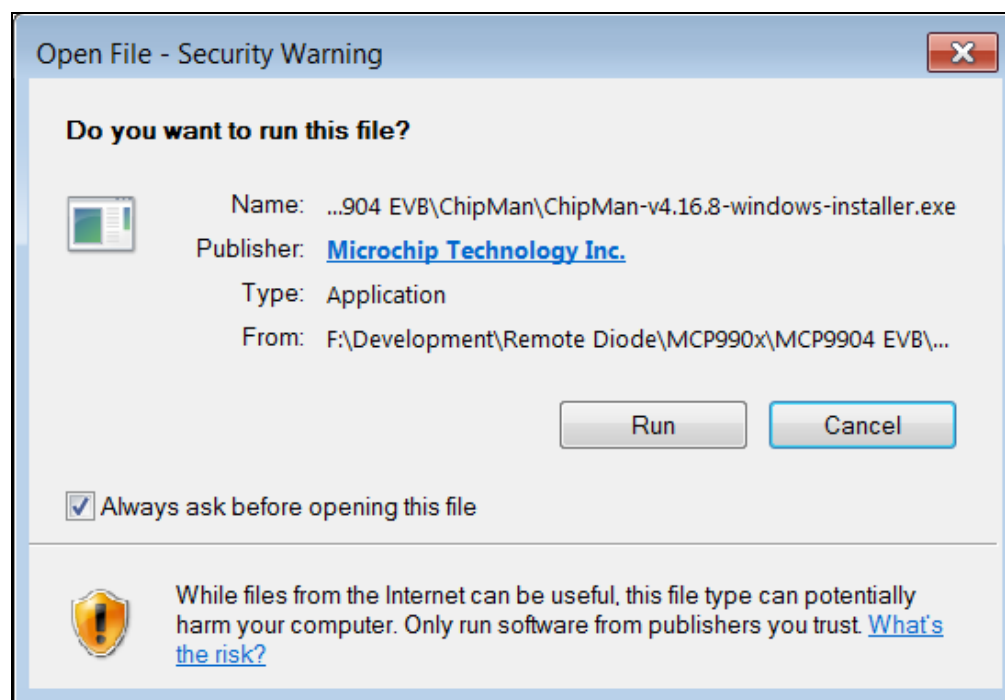

FIGURE 2-2: Application Install Window.
- After the driver installation is complete, the initial setup screen for the Chip Manager application appears (see Figure 2-2). Click **Next** to start the installation.